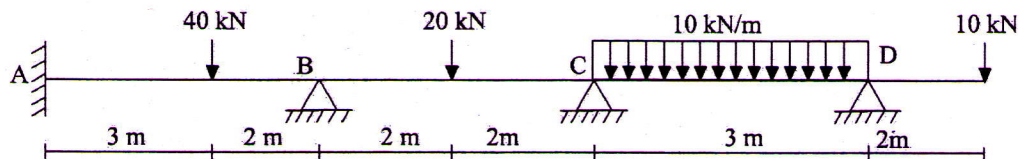

Fig 6
- 8 a) Explain the rotation of axes in 2 Dimensions (5)
b) An overhanging beam is shown in figure 6. Analyse the structure using Direct Stiffness Method and draw BMD (15)